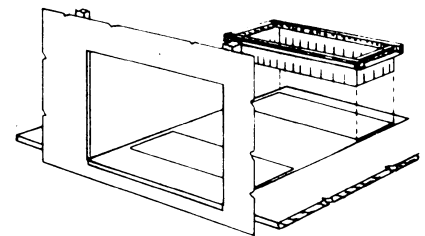

FIGURE 5
5. Place the bottom duct connector in the duct opening and bend the tabs over to secure. Seal the connection with duct tape. See Figure 5.